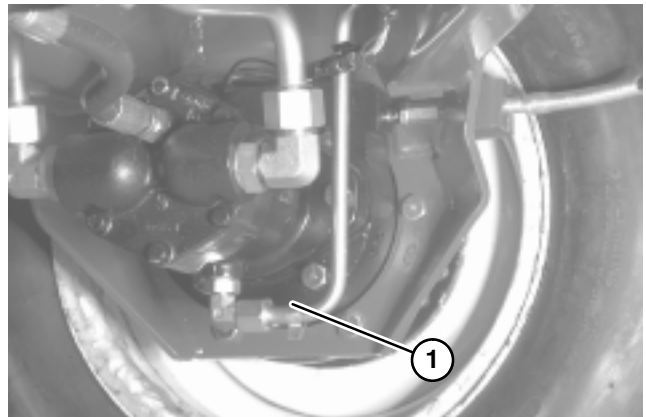

Figure 63
4. Place drain pan under brake hub on other side of wheel (Fig. 63).